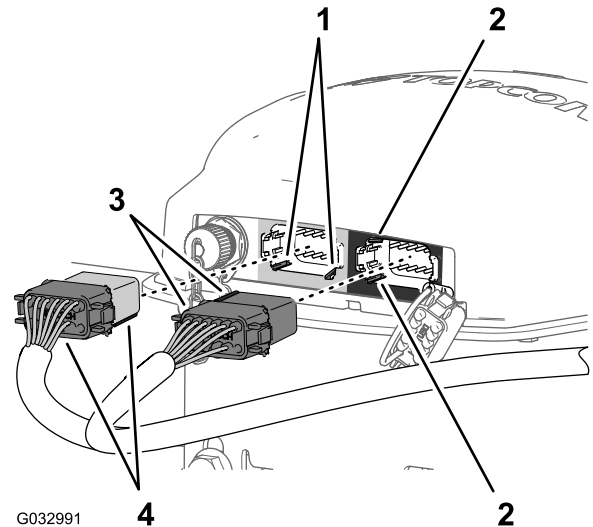

Figure 141
horizontal wall of the left (gray) 12-pin connector of the navigation receiver (Figure 141).
4. Plug the AGI 4 A KEY (GREY) connector of the data harness into the left (gray) 12-pin connector of the navigation receiver until the connector locks snap together securely (Figure 141).
5. Align the 2 keys at the short side of the 12-socket connector—data harness labeled AGI 4 B KEY (BLACK) with the 2 key slots in the left, vertical wall of the right (black) 12-pin connector of the navigation receiver (Figure 141).
6. Plug the AGI 4 B KEY (BLACK) connector of the data harness into the right (black) 12-pin connector of the navigation receiver until the connector locks snap together securely (Figure 141).